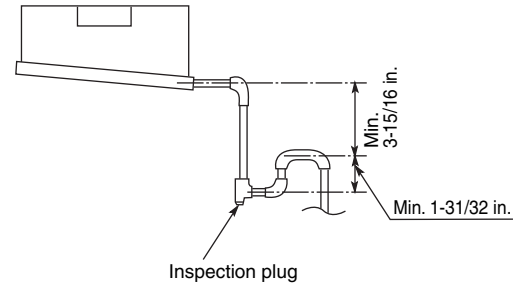

Fig. 3-125
- (5) Also, in another part of the pipe arrangement, prepare traps with an inspection plug to clean dust or debris that may cause leaking of water. (Fig. 3-125)
- (6) After connecting the drain piping, slowly pour water into the drain pan to check that the water drains smoothly.